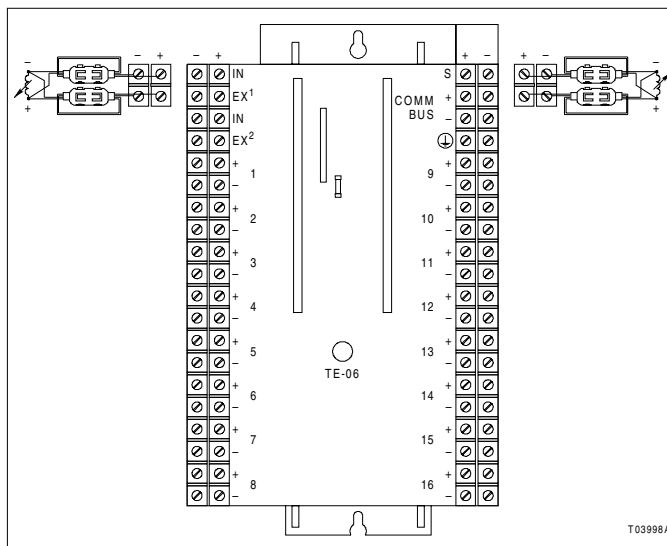

Figure C-5. 4-Wire RTD Module Ferrite Cable Clamp Installation
To install the ferrite cable clamps for four-wire RTD inputs, use two ferrite cable clamps per channel (Fig. C-5). One ferrite clamp per pair of lead wires. The two lead wires both positive and negative used for the excitation voltage must be looped once and the ferrite is clamped around the loop. The other two leads that return the signal to the input connection must also be looped once and have the ferrite clamped around the loop. Use included locking cable ties to keep the ferrite clamps in place.
2. Figure C-5 uses a TE06 base as an example with the cable clamps in place; this example is also used for the TE12 strain gauge base.